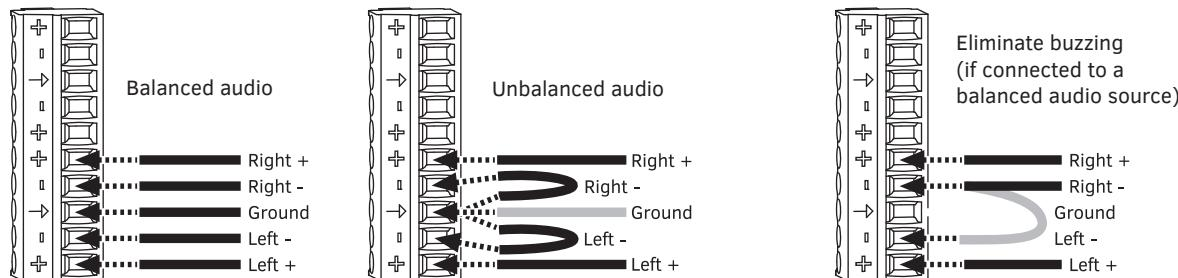

FIG. 79 Stereo audio wiring for Audio Switching Boards: balanced, unbalanced, and eliminate buzzing
- Be sure to note the labeling as shown in FIG. 79. The “L” (left channel) and “R” (right channel) are each ordered: +, -, ground, -, +.